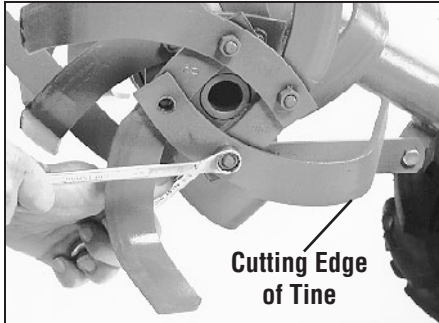

Figure 5-6: Removing single tine.
1. Remove the two screws and nuts that attach a single tine to the tine holder (Figure 5-6). If needed, use penetrating oil to help free the nuts.